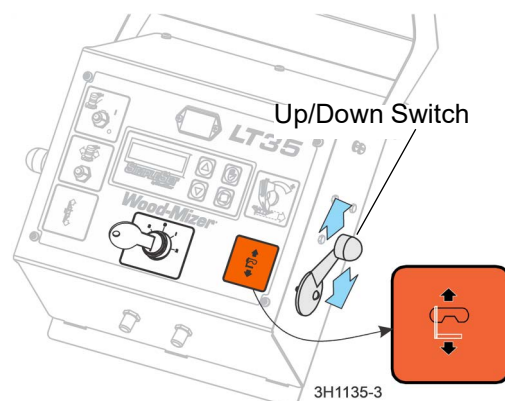

FIG. 3-2
5. Use the up/down switch on the control panel to raise the cutting head from the carriage rest pin. **See Fig. 3-2.**